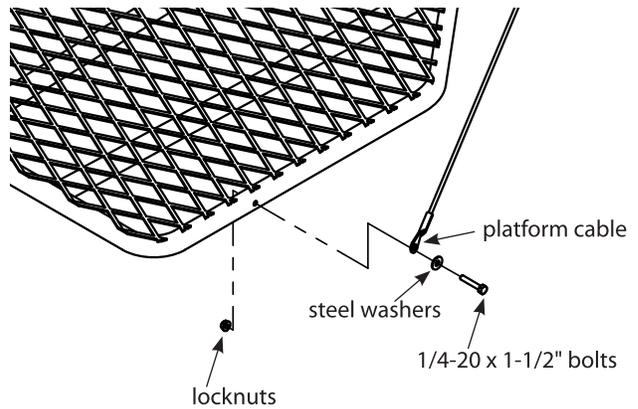

Figure 2
2. Attach cable (48212) ends to the platform (CXR12) using (2) provided 1/4-20 x 1-1/2" bolts, locknuts and steel washers. **SEE FIGURE 2. You must now tighten all nut & bolt assemblies securely. Be sure not to over tighten or crush tubing when tightening!**